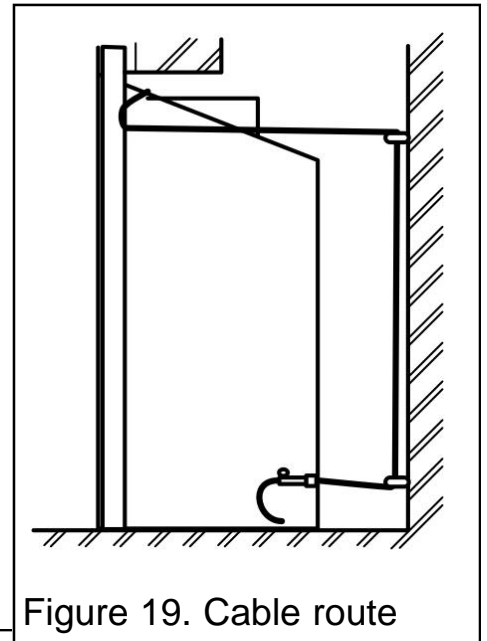

Figure 19. Cable route
6. Thread the cables through the eyebolts. Return the cables through the holes near the bottom of the hotbox back panel (See figure 19)